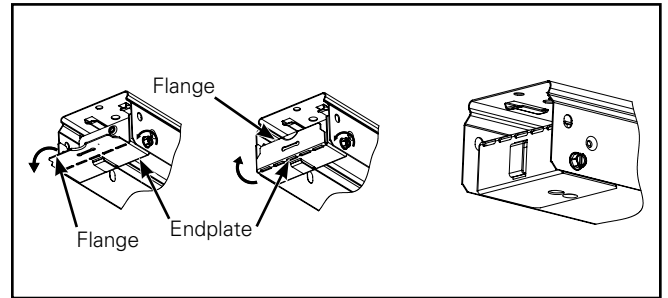

Figure 39.
1. Rotate upper endplate, bend flange as shown and rotate back to its original position in the Channel assembly. (Figure 39.)